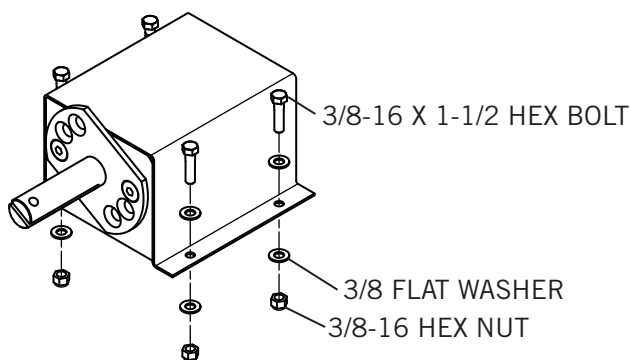

Figure 39
3) See Figure 39. Drill clearance holes and secure with 3/8-16 x 2-3/4 hex bolt, washers, and nylon nut.